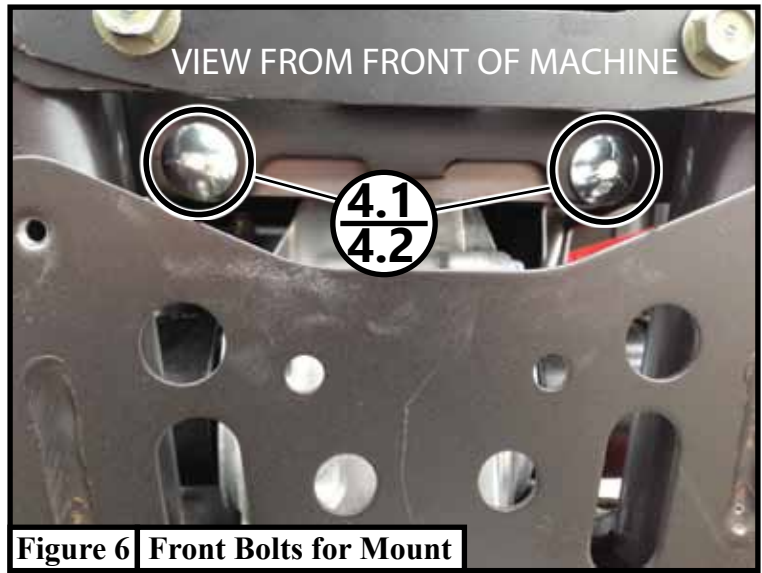

Figure 6 Front Bolts for Mount
- Fasten the winch mount (1) to the front frame rail using the 3/8" carriage bolts (4.1) and 3/8" nuts (4.2) as shown in **Figure 6** with nuts to the inside so the carriage bolts sit in the square cutout. Some machines may not have the square cutouts to hold a carriage bolt. Use hardware (4.3 and 4.2) in these situations. Use the 3/8" (4.1) carriage bolts and 3/8" nuts (4.2) as shown in **Figure 7** with the bolt head inside the frame channel, for the rear holes.
- If there is space between the frame and winch mount, refer to page 4 and use the washer and bolts. Depending on where the winch sits (too close on front or back side), you may need to place washers in front or behind the winch mount (1) to move the winch and mount forward or back to provide the clearance needed.